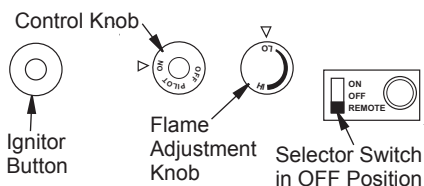

Figure 24 - Control Knob and Ignitor Button Location
4. Press in and turn control knob clockwise  to the OFF position (see Figure 24, page 19).
- Wait five (5) minutes to clear out any gas. Then smell for gas, including near the floor. If you smell gas, STOP! Follow "B" in the safety information, page 18. If you don't smell gas, go to the next step.
- Press in and turn control knob counterclockwise  to the PILOT position. Press in control knob for five (5) seconds (see Figure 24).